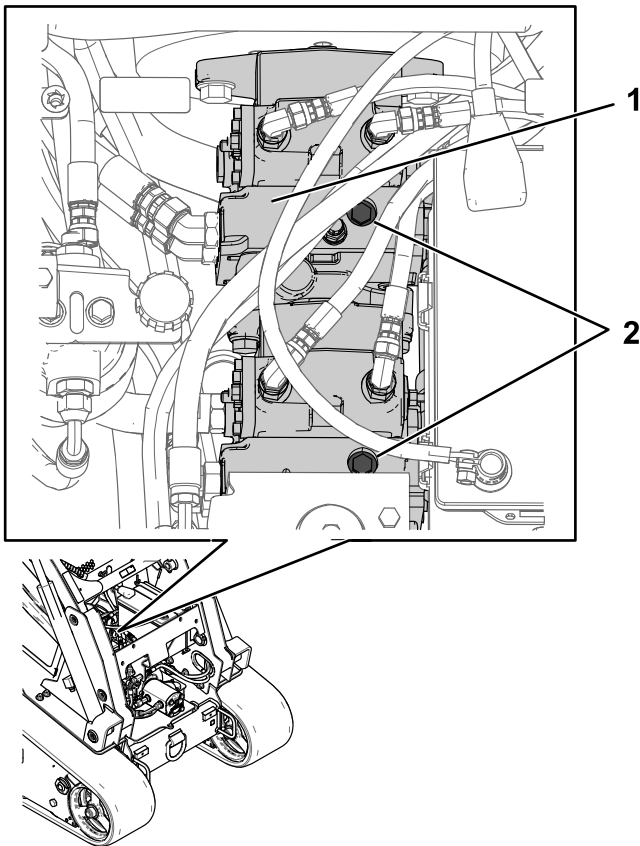

Figure 14
2. Use a 15 mm socket to remove the existing top relief valves from the tandem pump (Figure 14).